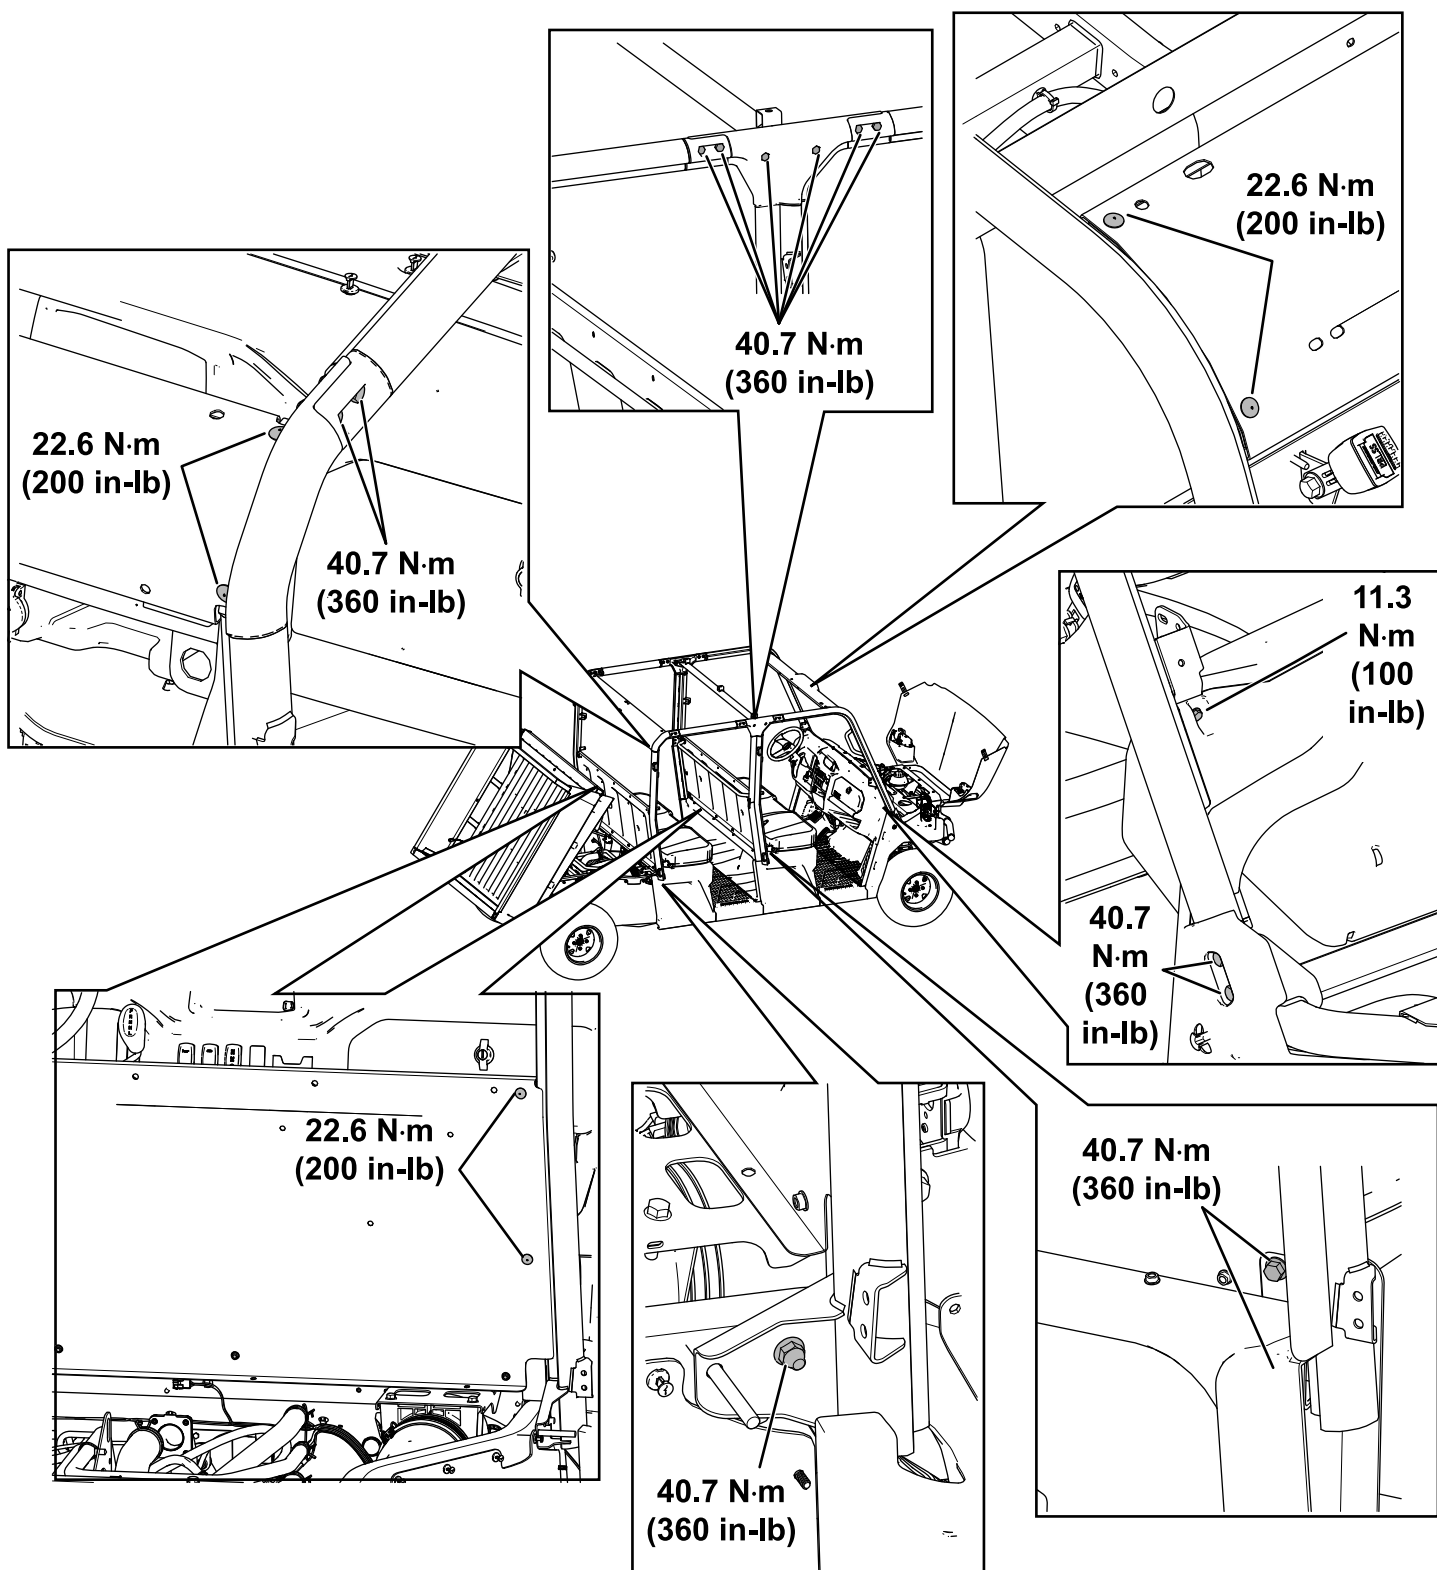

Figure 58
25. Torque the fasteners to the specifications shown in Figure 58.